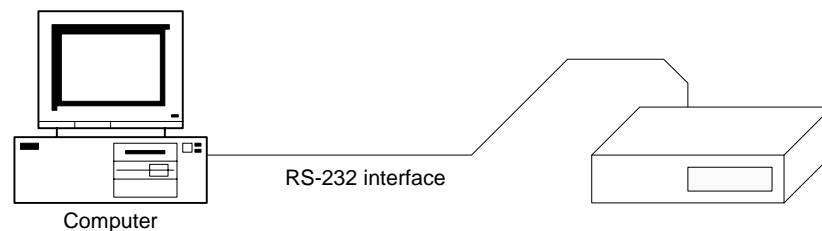

Figure 8: RS232 Connection
1. Link your PC to the Image AnyPlace system using a serial communication cable; be sure to use the proper COM port number on the PC (see Figure 8). Turn off the IA-100 power using the power switch mounted on the back of the unit.